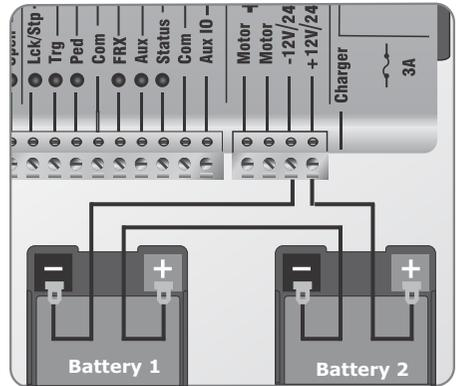

FIGURE 39
10. Connect the two batteries to the controller as shown in Figure 39.